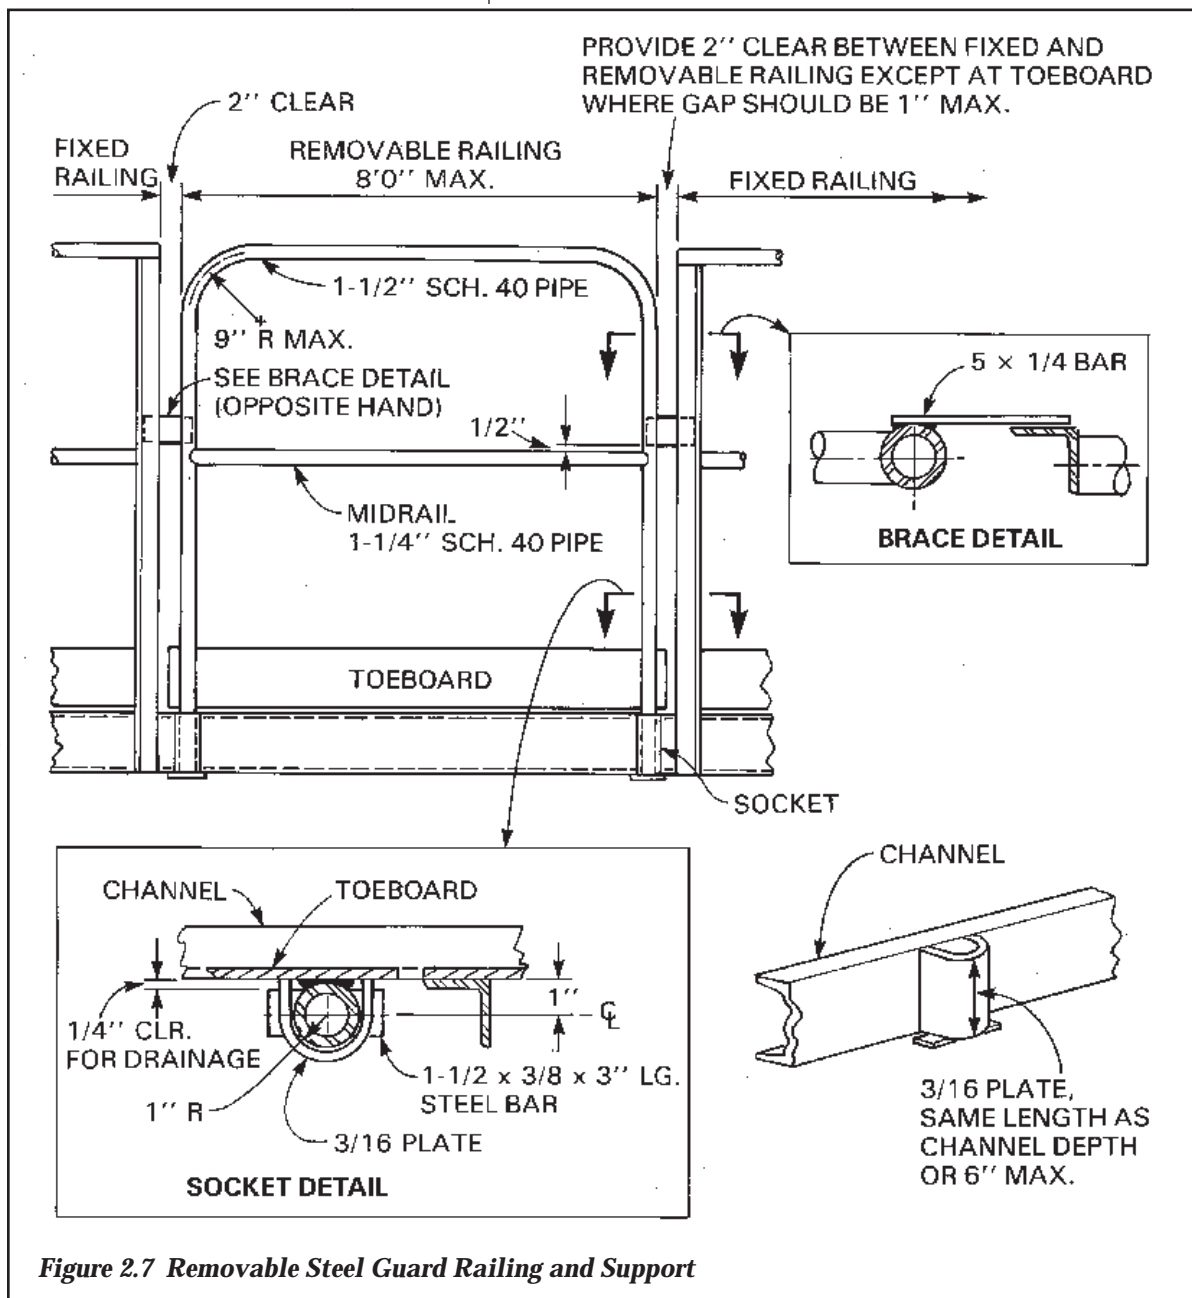

Figure 2.7 Removable Steel Guard Railing and Support
2. *Figure 2.7* shows only one of several acceptable supports.